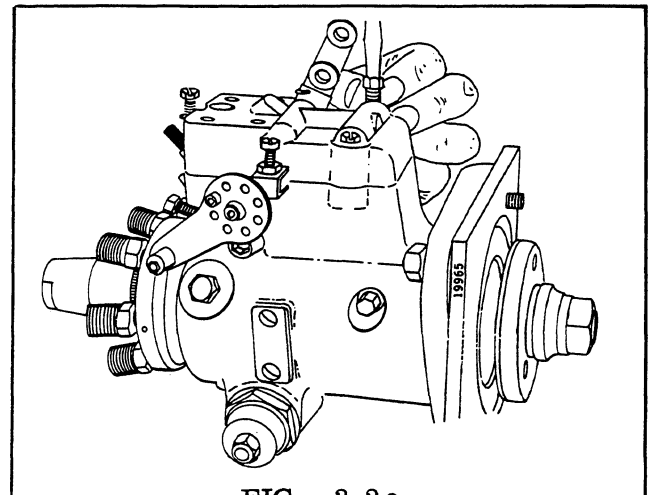

FIG. 3.2a
**STEP 2** Mount the pump in holding Fixture No. 19965. Never clamp the pump in a vise, always use a fixture. Remove all lead plumb seal wires. Unscrew the three cover hold-down screws (Fig. 3.2a). Remove the governor control cover and cover gasket (Fig. 3.2b).